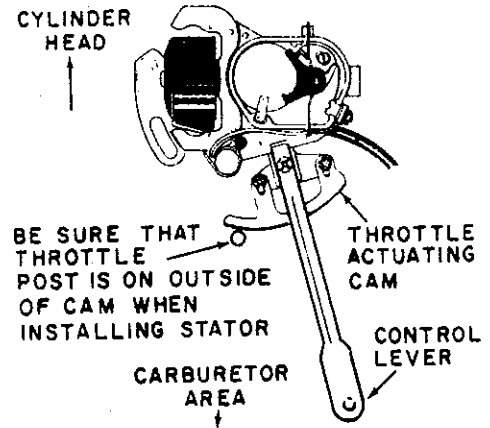

Figure 18
- B. Install the stator with operating handle pointed in the direction of the carburetor. Be sure the throttle post is NOT INSIDE the area of the throttle actuating cam. (See Figure 18.)